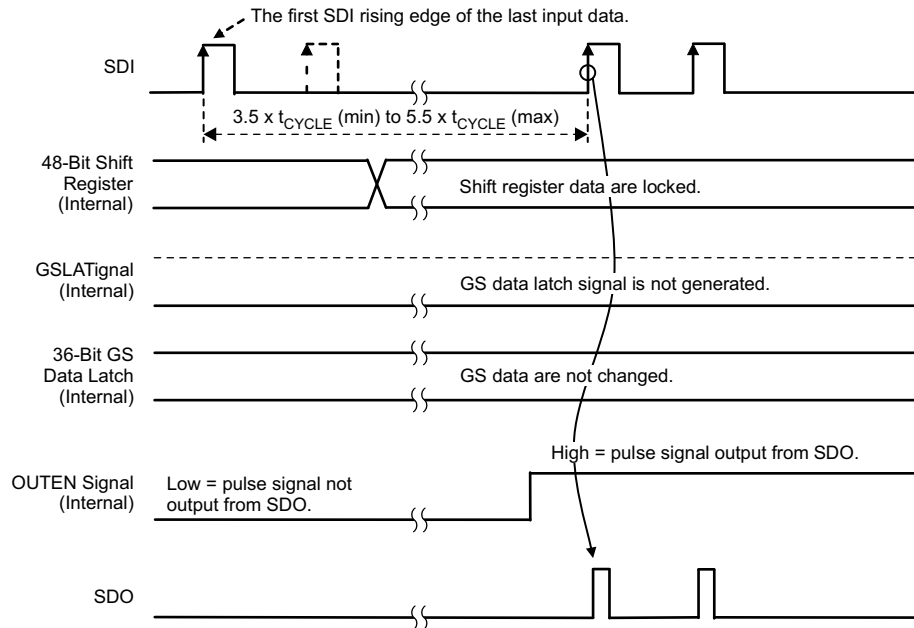

Figure 20. End of Sequence (EOS)
One communication cycle end of sequence (EOS) must be input after the 48-bit data are written because the TLC5973 does not count the number of input data. When SDI is held low for the EOS hold time (t_{H0}), the 48-bit shift register values are locked and a buffered SDI signal is output from SDO to transfer GS data to the next device. Figure 20 shows the EOS timing.
3. Execute one communication cycle EOS (refer to Figure 20) for the first device.